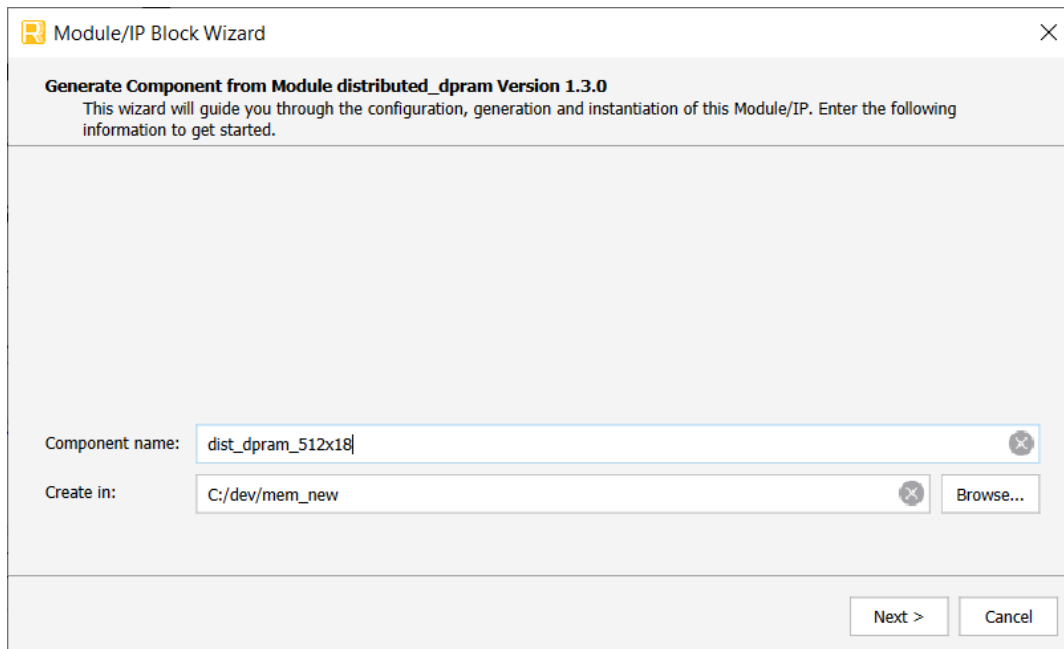

Figure 3.2. Example: Generating Distributed_DPRAM Using Module/IP Block Wizard
2. The **Module/IP Block Wizard** opens as shown in Figure 3.2. Enter values in the **Component name** and the **Create in** fields then click **Next**.
5. Click the **Finish** button. All the generated files are placed under the directory paths in the **Create in** and the **Component name** fields are shown in Figure 3.2.